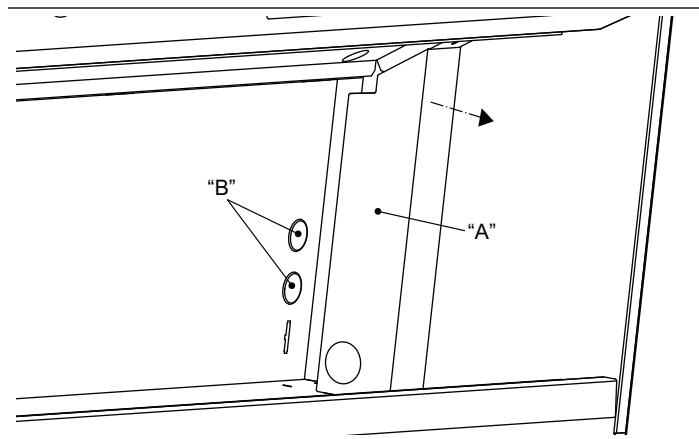

Figure 8: Junction Box Location
- Remove junction box channel covering the wires (see *Figure 8 on page 12*).
- Remove circular knockouts (see *Figure 8 on page 12*).
- Remove circular knockouts (*Figure 8 on page 12*).
- Spring type wire nuts, rated for a minimum of two (2) #18 gauge wires and maximum of four (4) #14 gauge wires, UL & CSA rated to 600V and 302°F (150°C).